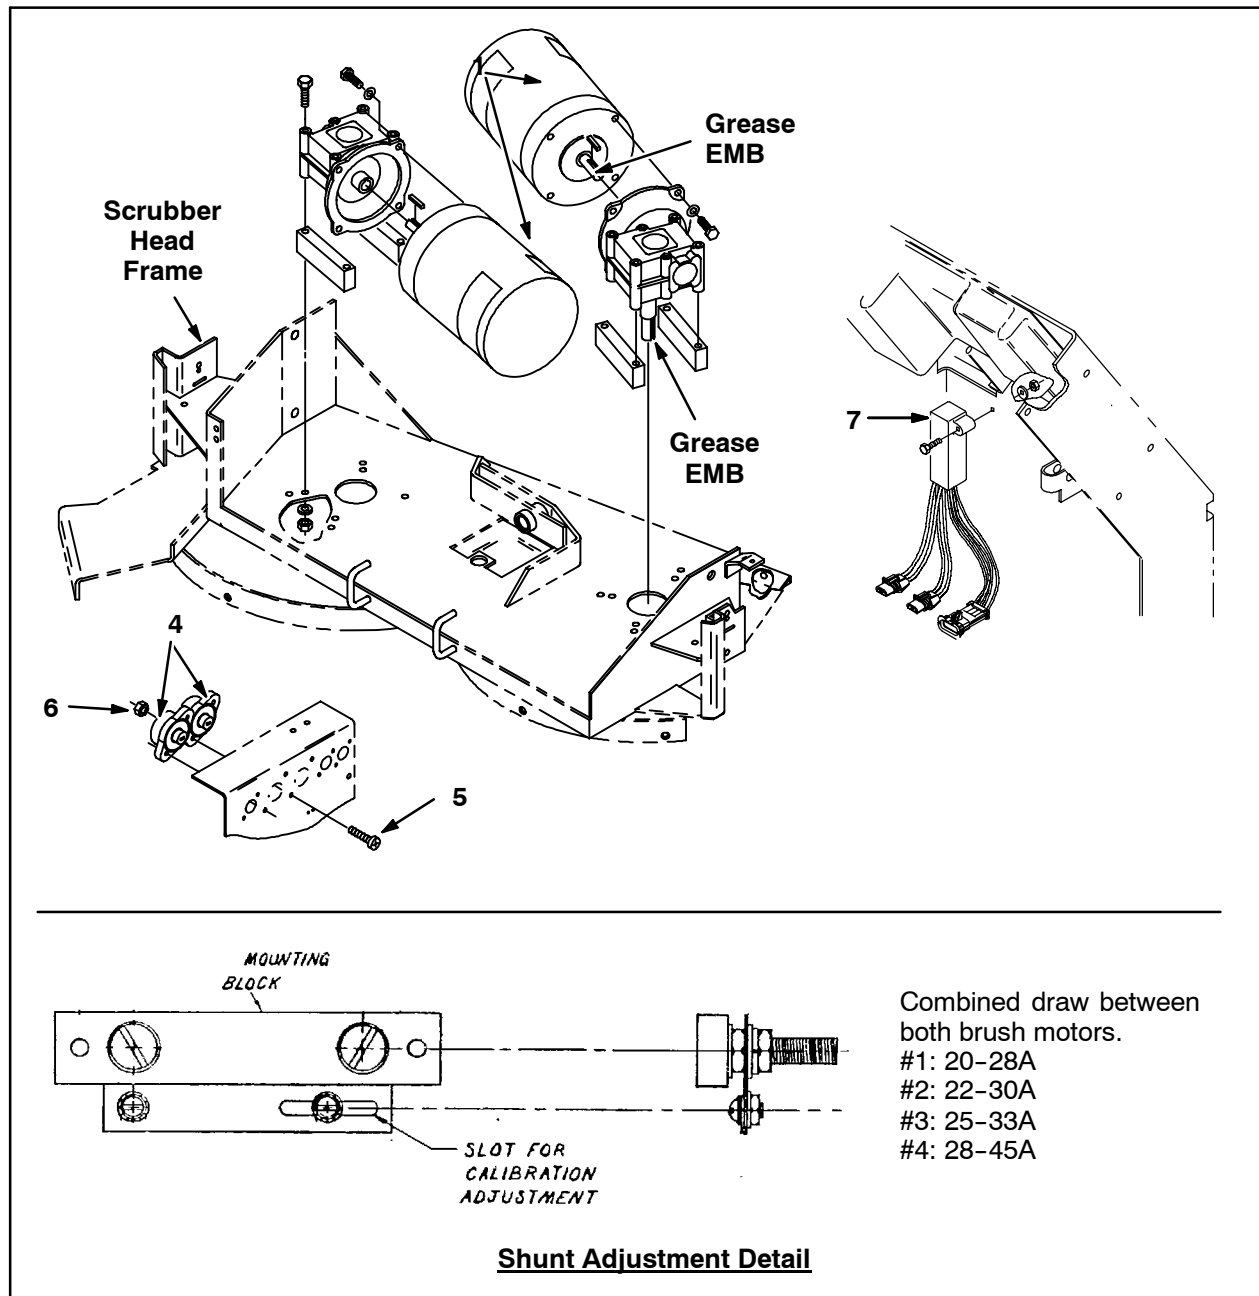

FIG. 1
1. Apply EMB grease (3) onto the shaft of each motor. Refer to Fig. 1.
2. Apply adhesive (2) onto the internal threads of each motor. Refer to Fig. 1.
3. Use existing hardware to install the new motors (1) onto the existing gear boxes. Refer to Fig. 1.
4. Mount each motor/gearbox and existing gearbox spacers on scrubber head frame with existing hardware. Refer to Fig. 1.
7. Remove existing 40-Amp circuit breakers from the side of the machine. Discard both circuit breakers and hardware. Refer to Fig. 1.
8. Use a pan screw (5) and hex nut (6) to install each 50-Amp circuit breaker where the 40-Amp circuit breakers were previously located. Refer to Fig. 1.
9. **515 (serial numbers 4286 and below) and 510E machines only:** If necessary, adjust the existing shunt to obtain the correct down pressure. Center the adjustment screw in the center of the adjustment slot for an initial setting. Adjust the shunt as necessary for the appropriate brush pressure. Refer to the Shunt Adjustment Detail in Fig. 1 for the combined draw between both brush motors.
10. **515 (serial numbers 4287 and above) and 8010 machines only:** Remove the existing shunt. Set the mounting hardware aside and discard the removed shunt. Use saved hardware to install the new shunt (7) onto the machine.